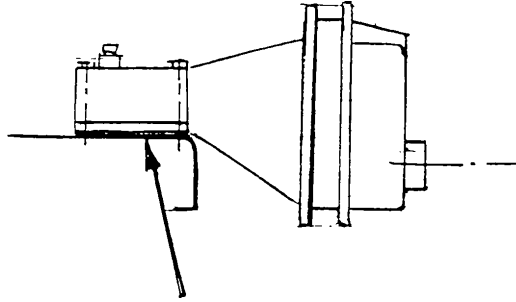

Figure 2. Gasket between Air Intake Adapter and Intake Manifold.
- (WEEKLY) 4. ( ) A copper gasket is installed between the air intake adapter and the engine as shown in Figure. 2.